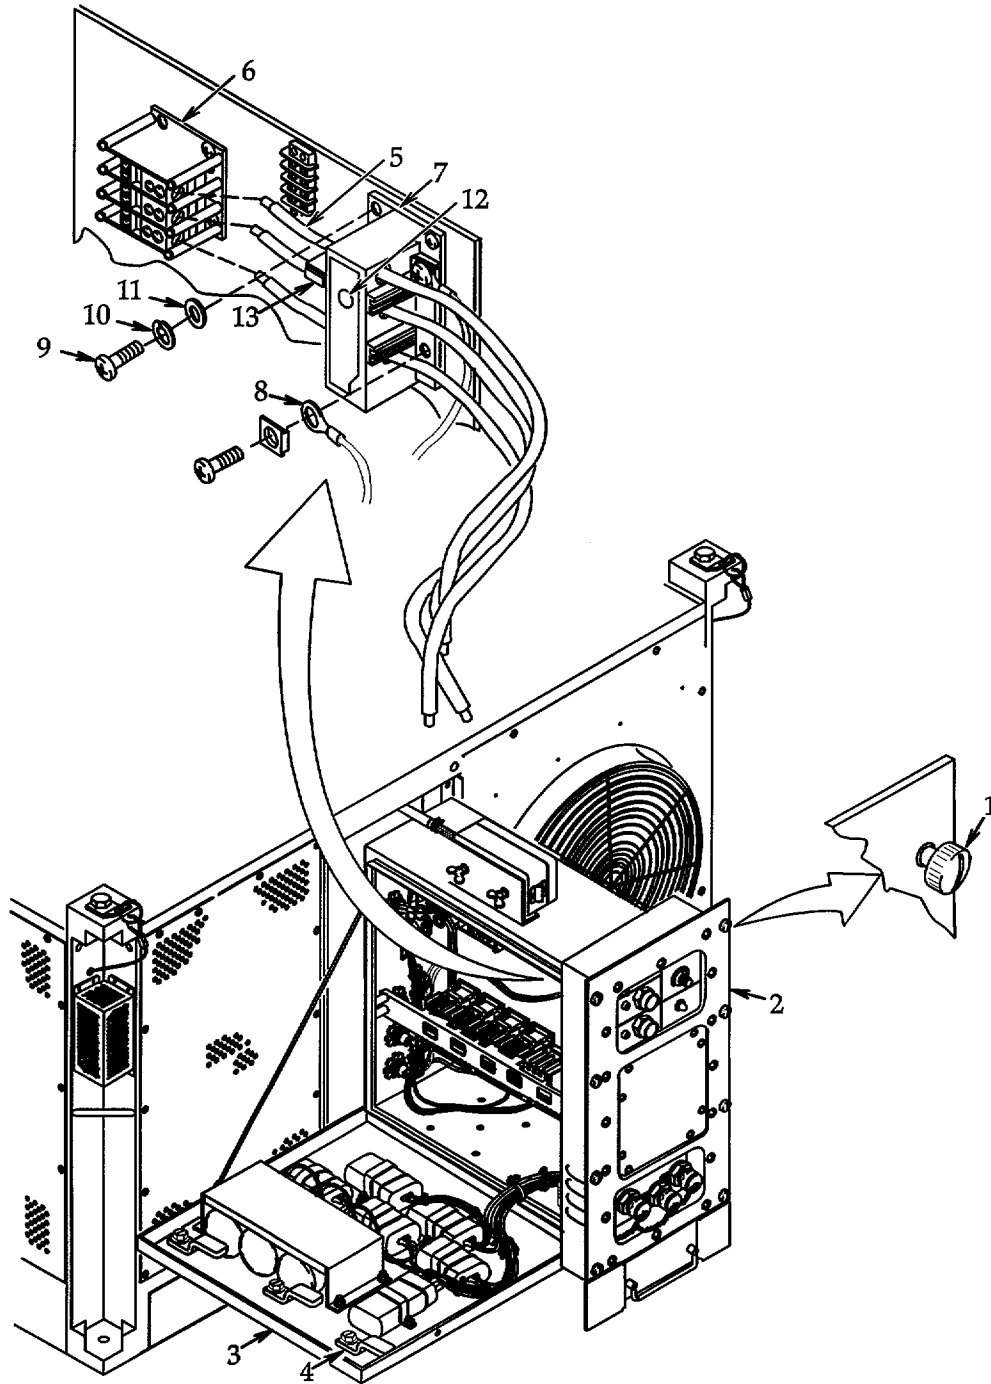

Figure 4-31. Overload Relay (K6) (FDECU-2 and FDECU-3 only).
- a. **Removal.** See figure 4-31.
- (1) Shutdown the FDECU per paragraph 2.4 and disconnect main power cable from power source.
- (2) Loosen eight captive screws (1) and carefully pull the electrical assembly (2) out.
- (3) Turn to release three latches (3) and open power box assembly cover (4).
- (4) Tag and disconnect three wire leads (5) from power distribution block (6) and pull them out of large overload relay (7).
- (5) Tag and disconnect two wire leads (8) from large overload relay (7).
- (6) Remove four screws (9), lock washers (10), flat washers (11), and large overload relay (7). Discard lock washers.
- b. **Installation.** See figure 4-31.
- (1) Install large overload relay (7) and align mounting holes. Secure with four flat washers (11), new lock washers (10), and screws (9). Place the amperage dial (12) to 44 and push reset button (13).